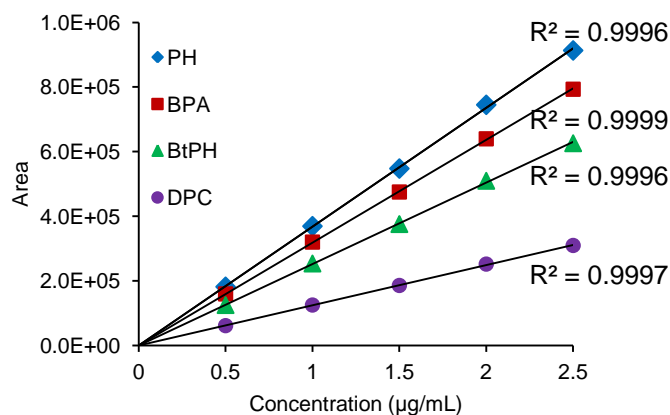

Figure 7 Calibration Curve
- ✓ The calibration curves for those components (0.5, 1, 1.5, 2, 2.5 $\mu\text{g/mL}$) showed correlation coefficients (R^2) of 0.9996 or higher, indicating a good linearity (Figure 7)